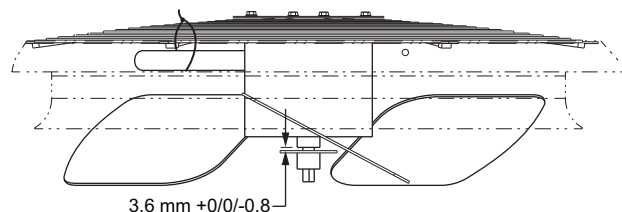

Fig. 33 — Outdoor Fan Blade Position
4. Adjust fan height as shown in Fig. 33.